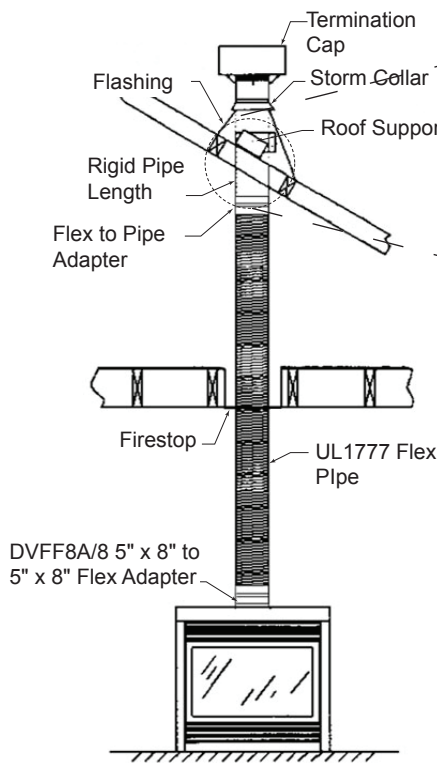

Figure 38 - Typical Vertical Flex Vent Installation
2. Install firestop spacers, *Figure 38*, when penetrating ceiling, attic spaces, or walls.
4. Use only listed and approved terminations and accessories, installed per the installation instructions and *Figure 38*.